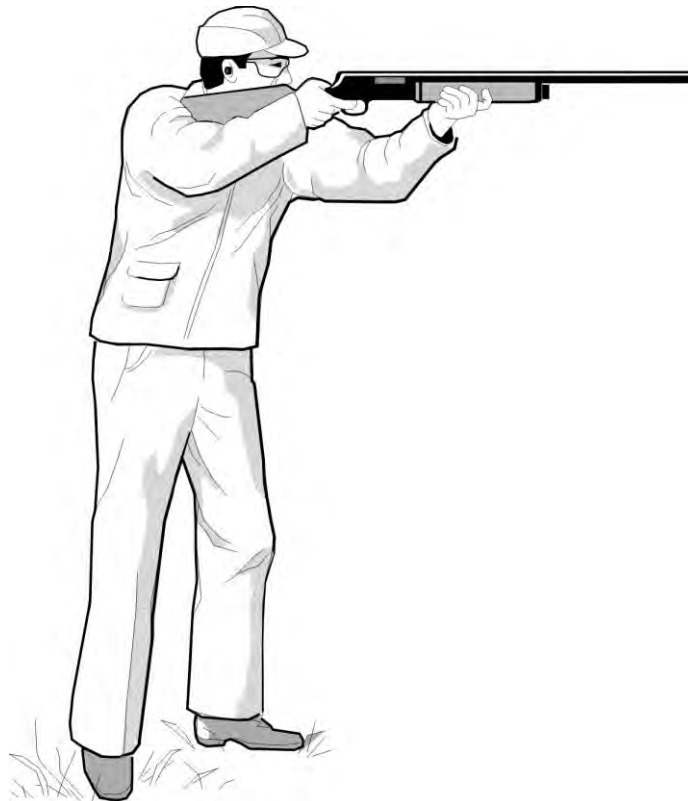

Figure 71. Shotgun Shooting Position
- a. Shooting a shotgun is different from shooting a rifle. With a rifle you aim precisely. With a shotgun you point at the target (Figure 71). Some shotguns are equipped with adjustable sights and are primarily used to fire slugs.